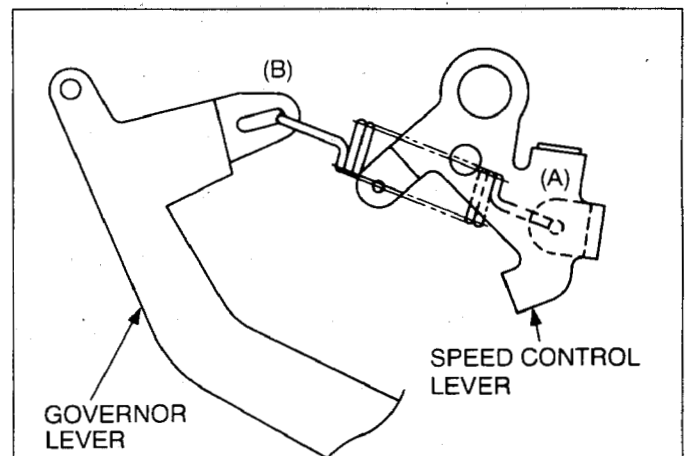
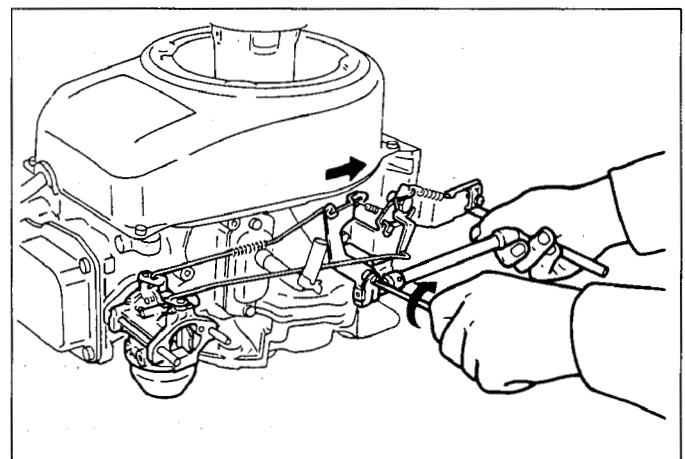

Fig. 5-44
Fig. 5-45
(1) Install throttle lever control linkage on governor lever and choke shaft control rod in choke lever.
(2) Hook spring from control lever hole (A) to the hole (B) in governor lever as shown in Fig. 5-44. Install bracket assembly on crankcase.
(3) Install governor lever on governor shaft but do not tighten clamp screw.
(4) Turn governor lever clockwise until throttle valve in carburetor is opened fully. Hold lever in this position. (See Fig. 5-45.)